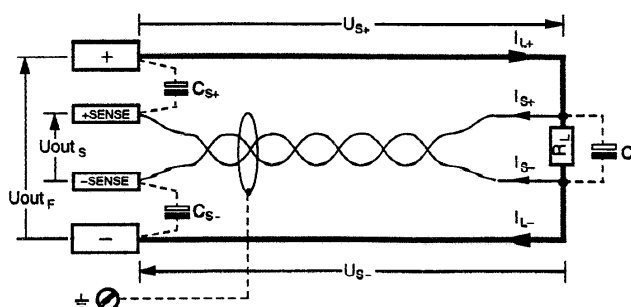

Figure 2.1.3 Connection to Consumer for Sensing Mode Operation
- Control oscillation can be counteracted by connecting capacitors (C_{S+} , C_{S-}) between the SENSE and the output terminals (see figure 2.1.3). Twisting the power leads reduces their impedance as well.